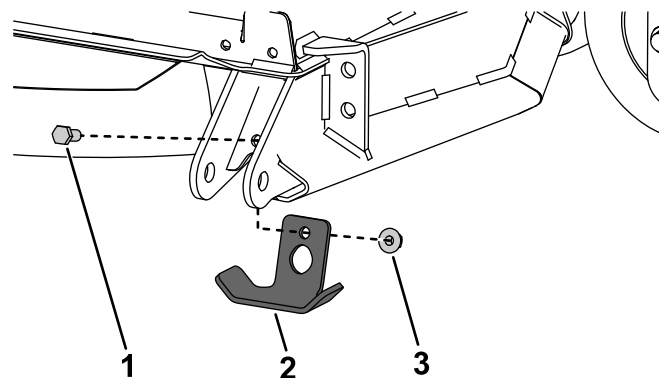

Figure 11
2. Remove the fasteners that secure the existing skid plate to the cutting unit (Figure 11).